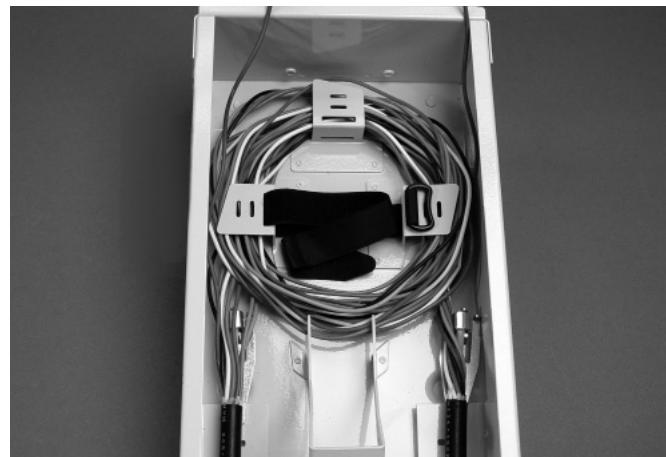

Figure 13
7. Sort out the ribbon(s) or buffer tube(s) to be spliced and set to the side. Store the remaining unused fibers in the storage area. It is recommended to place fiber storage in front of the tray tower. (Figure 13)